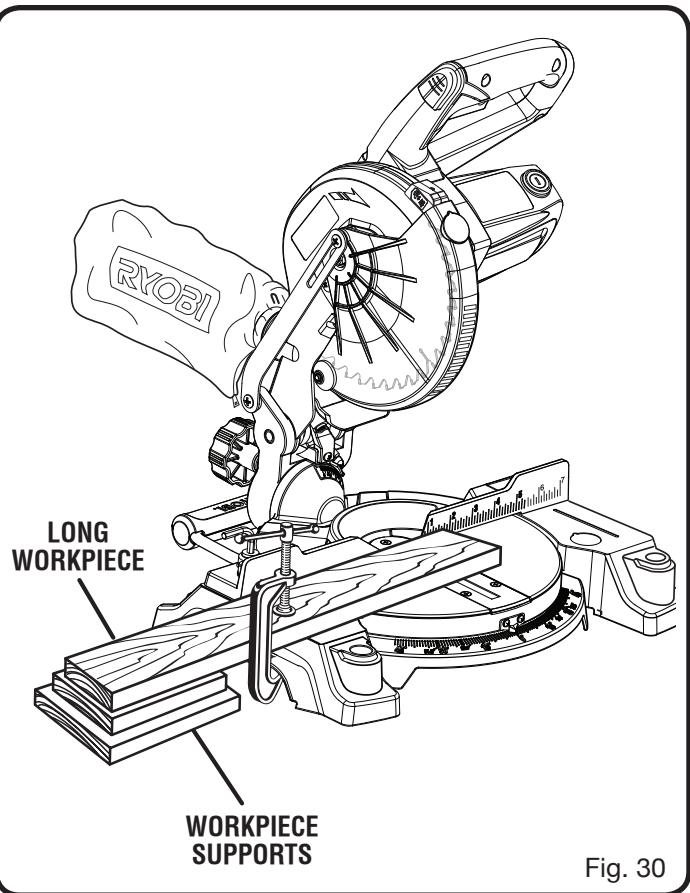

Fig. 30
- When cutting long pieces of lumber or molding, support the opposite end of the stock with a roller stand or with a work surface level with the saw table. See Figure 30.
- When cutting long pieces of lumber or molding, support the opposite end of the stock with a roller stand or with a work surface level with the saw table. *See Figure 30.*
See Figure 30.